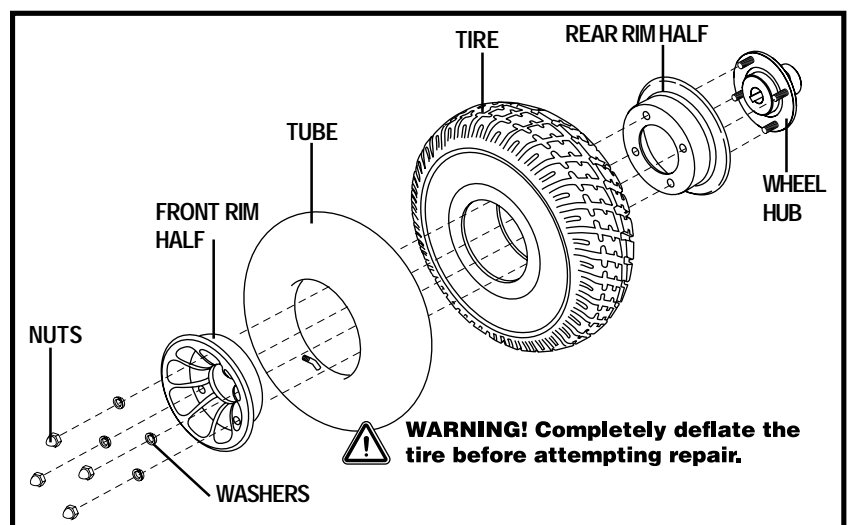

Figure 29. Jazzy 610 Drive Wheel Disassembled
6. Remove the nuts and washers from the wheel hub and separate the front and rear rim. See figure 29.